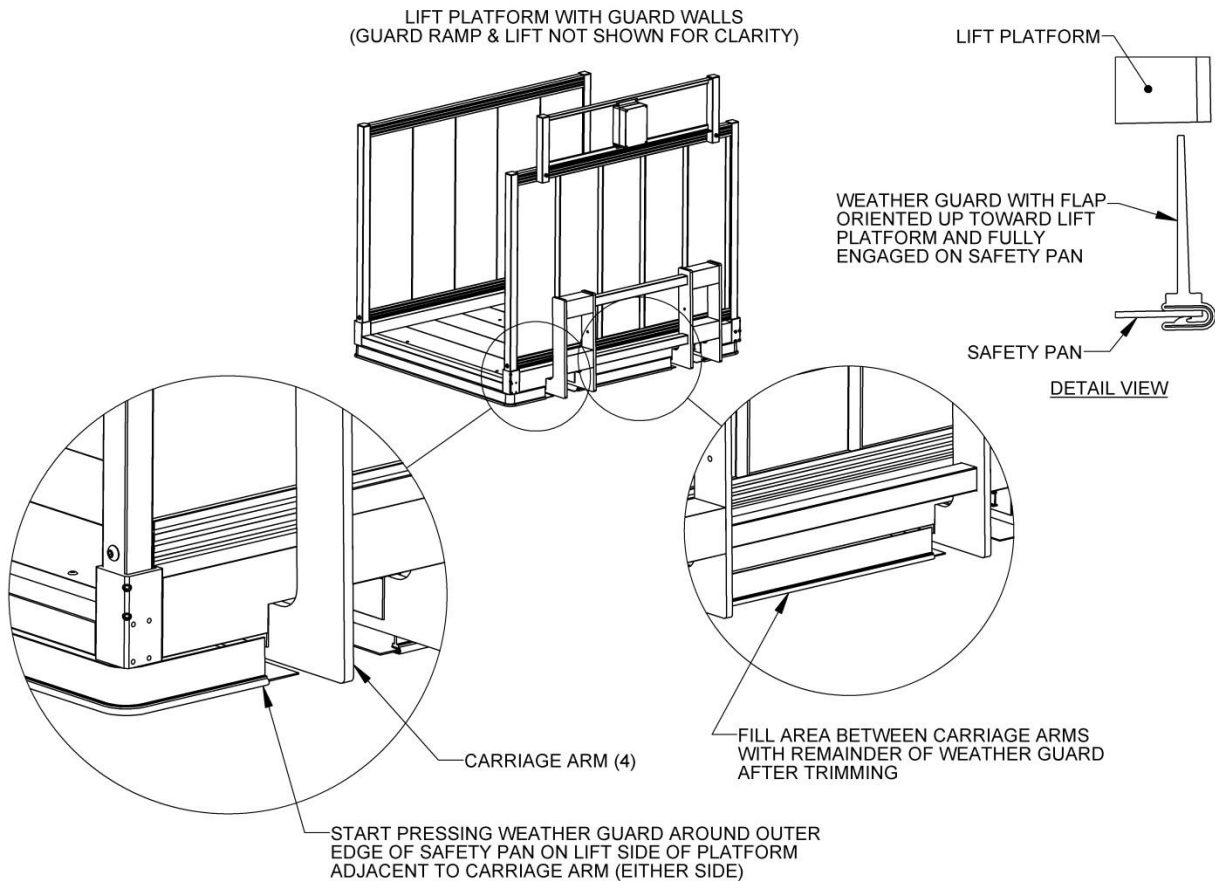

FIG. 10.2
1. Begin at the rear (closest to the lift) and adjacent to one of the outer carriage arms (FIG. 10.2).